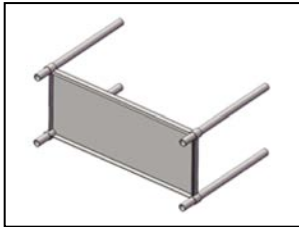

Fig 1
2. One by one, insert each leg into the corner socket of the under shelf [Fig.1]